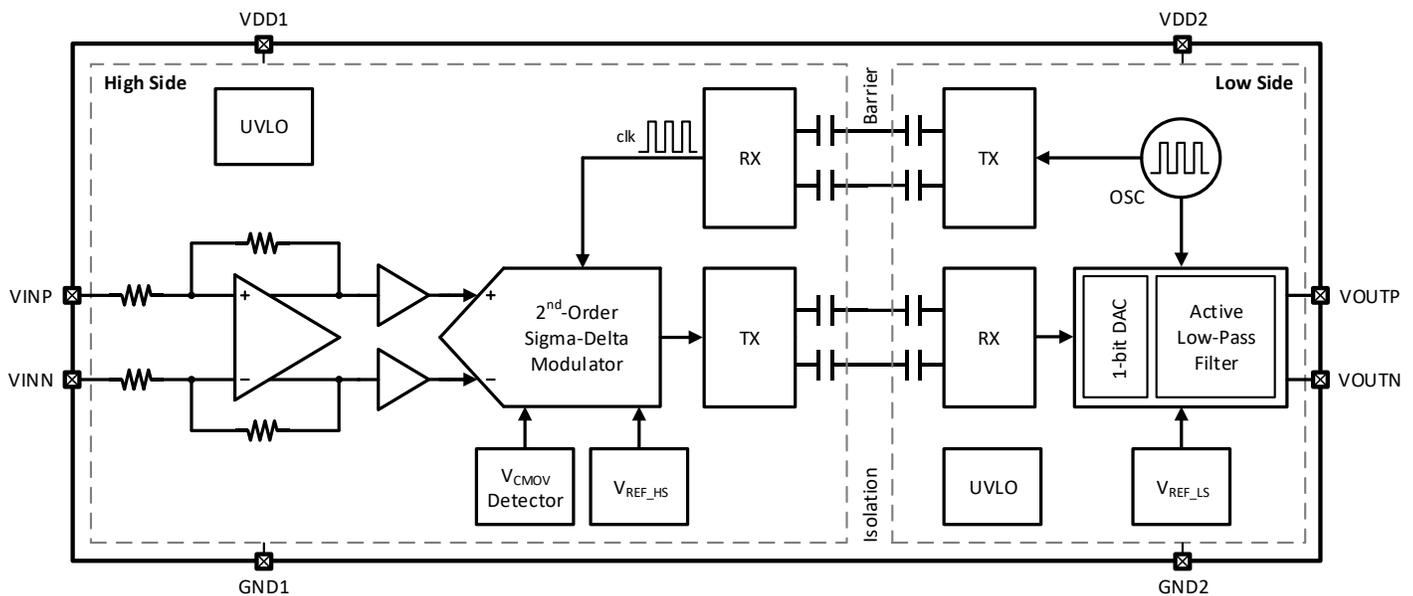

Figure 9-1 Functional Block Diagram of CA-IS1200
The CA-IS1200 devices are high-precision isolated amplifiers designed for shunt-resistor-based current sensing. The functional block diagram of this device is shown in Figure 9-1. At high side, the fully differential amplifier pre-amplifies the measuring voltage across a shunt resistor and then drives a 2nd-order Sigma-Delta ($\Sigma\Delta$) modulator. This modulator converts the analog signal to a digital bitstream. For transmission across the SiO₂-based isolation barrier, the digital stream is further modulated with a high-frequency carrier using a simple on-off keying (OOK) modulation scheme. The receiver (RX) recovers the modulated signal to the original digital bitstream at low side. After processed by a 1-bit digital-to-analog converter (DAC), the digital bitstream is sent to an active low-pass filter to produce the analog output. For synchronization of the whole chip, the clock is generated at low side and sent back to high side ensuring that all clocks come from one source.